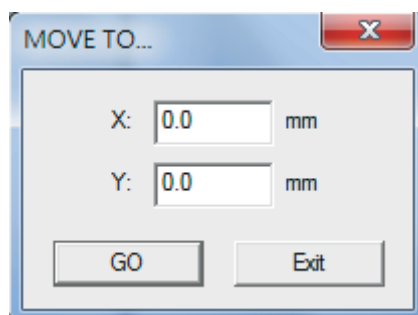

Fig. 1.7.25
1. Click “MOVE TO...” button and then input the X and Y values in the dialog box like Fig.1.7.25 and click “GO,” the XY Table will move to that specific position. The moving speed can be adjusted from “Speed” parameter.